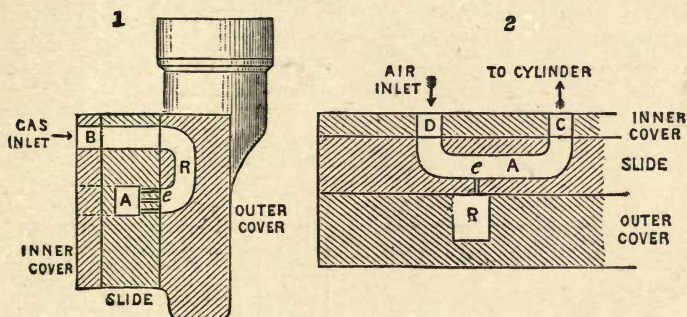

FIG. 12.
In fig. 12, (1) shows a vertical transverse section of the slide and covers taken through the gas inlet B. Within
The gas having entered A, passes directly from thence to the cylinder, and at the same time becomes mixed with air. To make this clear we refer to fig. 12 (2), which is a